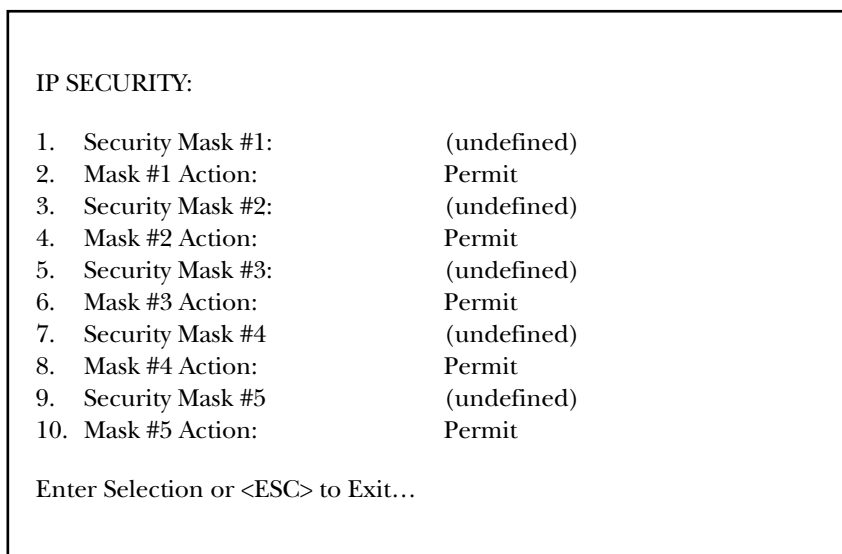

Figure 5-9. IP Security menu (text interface).
- b) Text interface: Go to the Network Parameters menu (/N), type 5, and press **Enter**. The IP Security menu appears (see Figure 5-9).